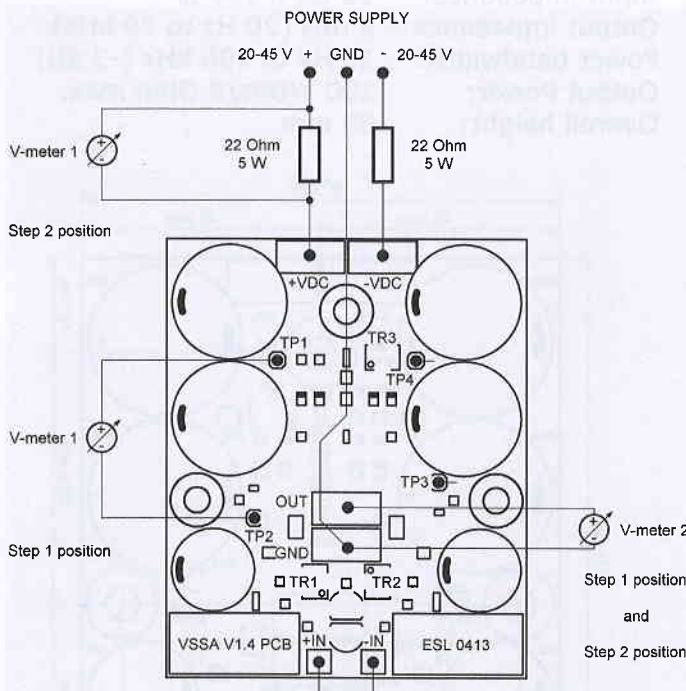

Fig.2 Calibration adjustments connection diagram
VSSA amplifier module needs to be calibrated prior normal operation use. Calibration is straightforward and performed in two steps. This procedure requires two digital volt meters equipped with V and mV range, so the adjustments can be precise to 0,1 mV. In both steps of calibration connect VSSA amplifier module as shown in diagram (Fig.2) and fix it to heatsink as described in thermal considerations. GND potential is automatically connected to the heatsink by bolts of KSA and KSC transistors.
1. **In Step 1 of calibration adjustment procedure only TR1 and TR2 trimmers will be adjusted.** Step 1 calibration adjustments will set VSSA amplifier to correct input bias current, correct VAS bias current and zero output DC offset voltage. In Step 1 procedure V-meter 1 is connected to TP1 and TP2, V-meter 2 is connected to OUT and GND, just as drawn in a schematic diagram (Fig.2). Set both V-meters to mV range. Power supply is connected to VSSA amplifier module via 22 Ohm/5 W resistors (Fig.2), please give enough space between the resistors to avoid any short circuits. **Our final target for V-meter 1 reading is 120 mV and 0 mV for V-meter 2 reading.** Turn on the power supply and observe both V-meters displayed values. Clockwise rotation of TR1 will increase mV value of V-meter 1 and decrease mV value of V-meter 2. Clockwise rotation of TR2 will increase mV value of V-meter 1 and increase mV value of V-meter 2. **Adjust trimmers gradually and only one at the time, so you can clearly notice the tendency of each trimmer rotation and mV readings on both V-meters.** Rotate trimmers in a direction to reach our final target goal 120 mV reading on V-meter 1 (meaning 12 mA VAS bias current) and 0 mV on V-meter 2 (meaning zero output DC offset). Test points TP3 (positive) and TP4 (negative) have the same function as TP1 and TP2 on T5 side and serves to measure VAS bias current on T6 side.
2. **In Step 2 of calibration adjustment procedure only TR3 trimmer will be adjusted.** Step 2 calibration adjustment will set VSSA amplifier to correct output bias current. In Step 2 procedure V-meter 1 is connected to positive rail 22 Ohm/5 W resistor, V-meter 2 is connected to OUT and GND, just as drawn in a schematic diagram (Fig.2), set V-meter 1 to V range and V-meter 2 to mV range. **Our final target for V-meter 1 reading is 4,00 V and 0 mV for V-meter 2 reading.** Turn on the power supply and observe both V-meters displayed values. Clockwise